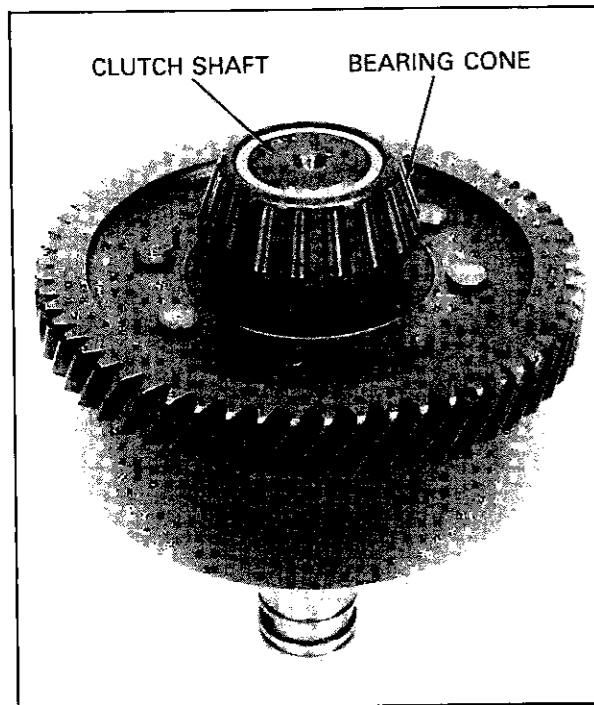

FIG. 20 BEARING CONE INSTALLATION
13. Press a tapered bearing cone over the face of the gear on each clutch shaft (Fig. 20).